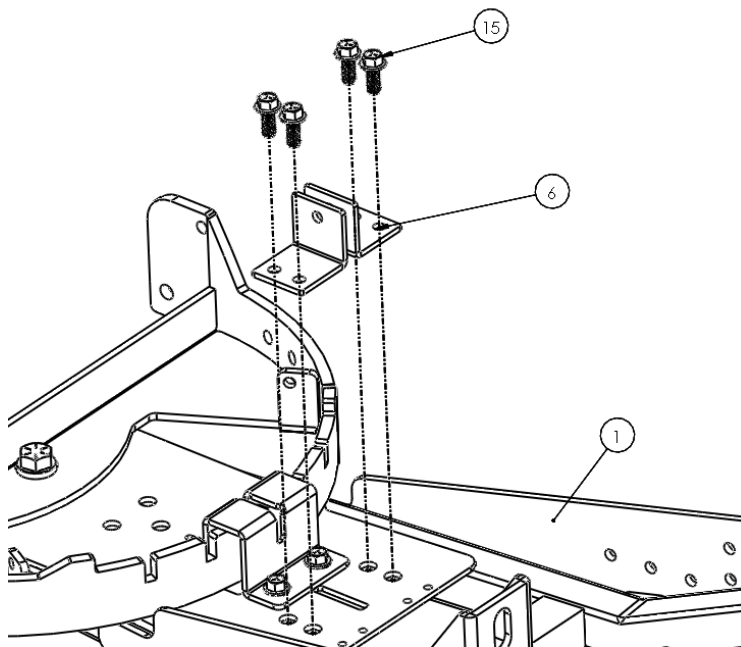

Figure 3
- 3) Attach the Pivot Lever Risers to the Lift Arm using four $3/8"$ x $1.00"$ Flange Bolts as shown in **Figure 3**.